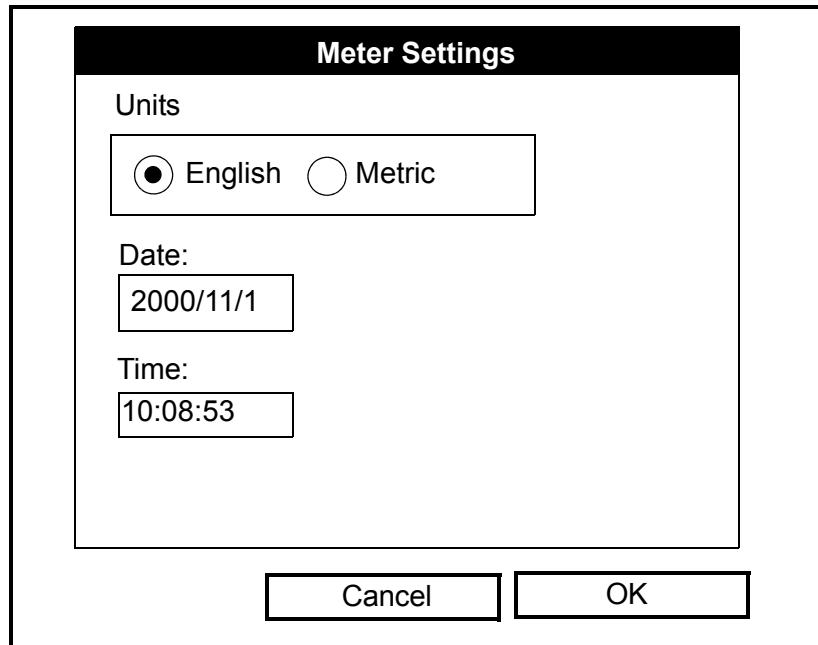

Figure 3-12: The Meter Settings Window
2. Scroll to the *Units* option and press [ENTER]. The *Meter Settings* window opens (see Figure 3-12 below).
2. Scroll to the *Date/Time* option and press [ENTER]. The *Meter Settings* window opens (see Figure 3-12 on page 3-14).